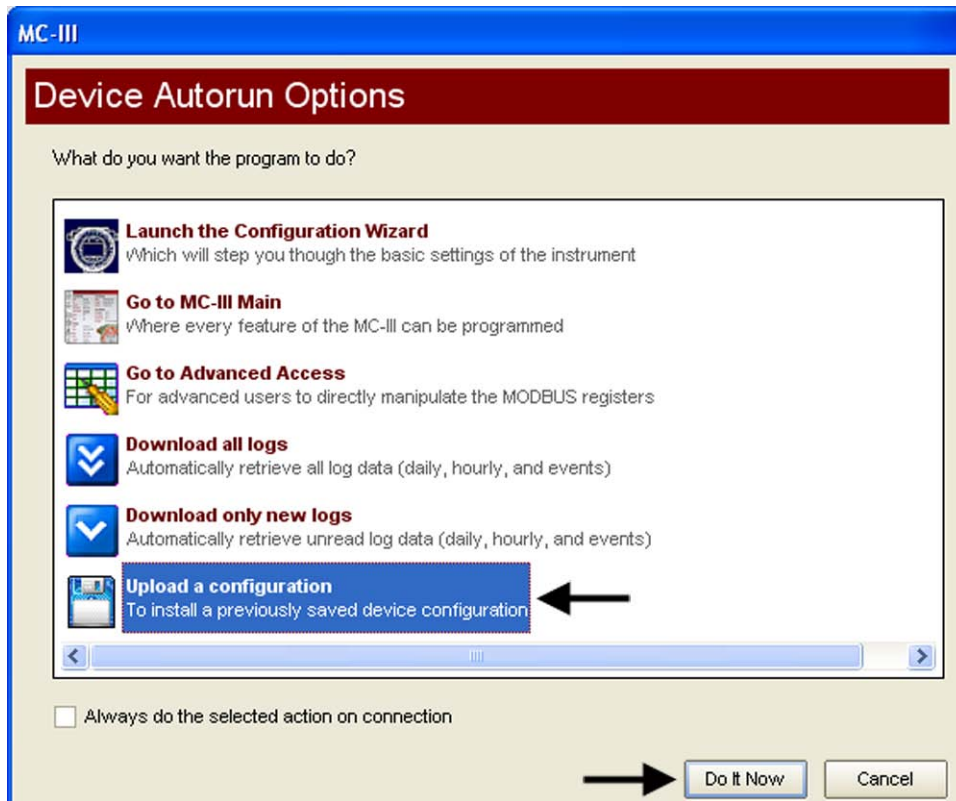
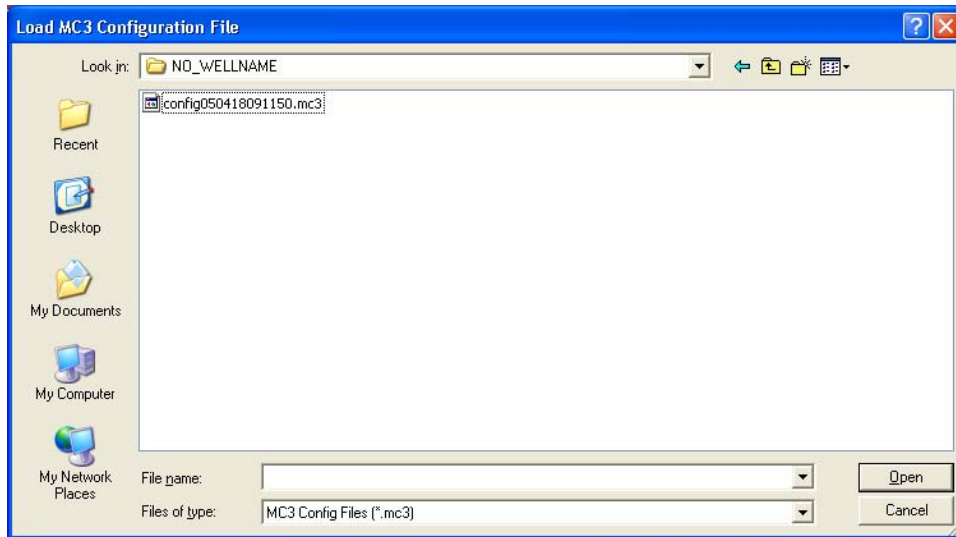

Figure 4.37—Upload a Configuration option
Figure 4.38—Default directory for configuration files
3. Click “Upload a configuration” (Figure 4.37, page 73) and click “Do It Now.” A “Load MC3 Configuration File” window will appear (Figure 4.38, page 73), displaying the contents of the configuration folder.